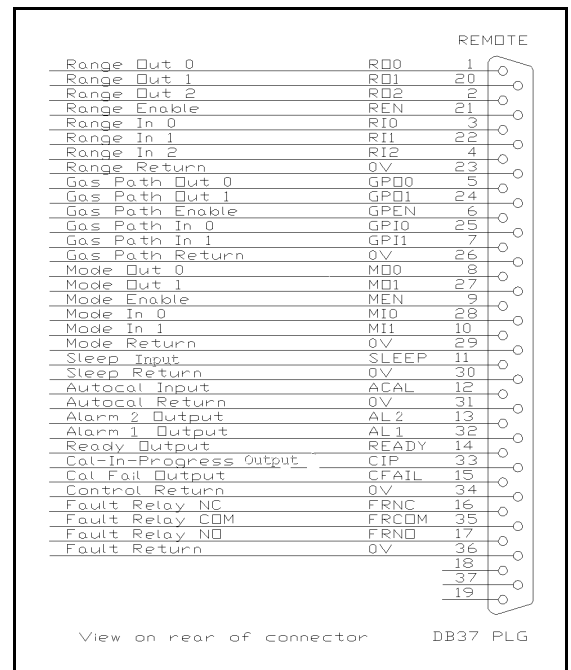

Figure 3 Remote Connections
- 3.7.2 The connector pin allocations are given in Figure 3. Not all functions are available in this analyser. Refer to section 0 for full information.